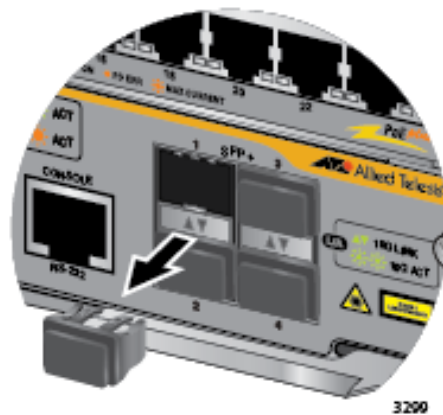

Figure 109. Removing a Dust Cover from an SFP+ Slot in the AT-SBx81CFC960 Controller Fabric Card
1. Remove the dust plug from the slot chosen for the SFP+ transceiver. Refer to Figure 109 on page 187.
1. Remove the dust plug from one of the SFP+ slots. You may install AT-SP10TW Cables in any of the SFP+ slots on the controller card. Refer to Figure 109 on page 187.